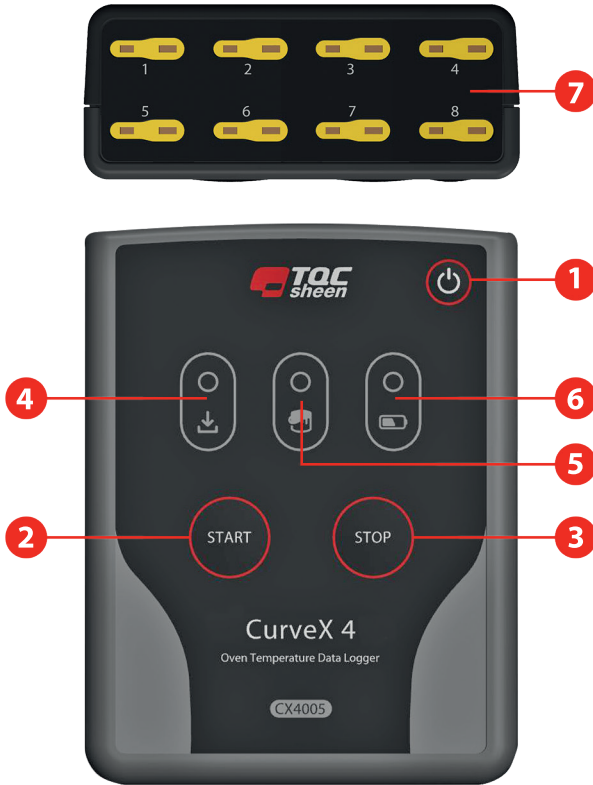

Figure 1
The information in the following steps should be sufficient to allow you to operate the CurveX 4 without further use of this manual. For more detailed information we refer you to the remainder of the manual. See Figure 1 for more information about the interface positions.
- Step 1.** Power on the data logger by pressing the POWER button (see figure 1, position 1) and start the Ideal Finish Analysis software.
- Step 2.** Connect the USB connector to the CurveX 4 (see figure 1, position 8).